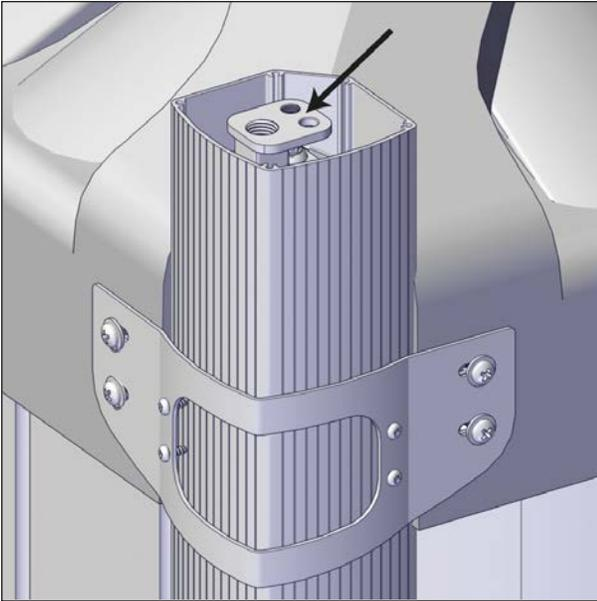

FIGURE 72: INTERNAL JACK
5. Raise the jacks with the key switch. The four internal jacks will raise but the cover should stay in place, see Figure 72.